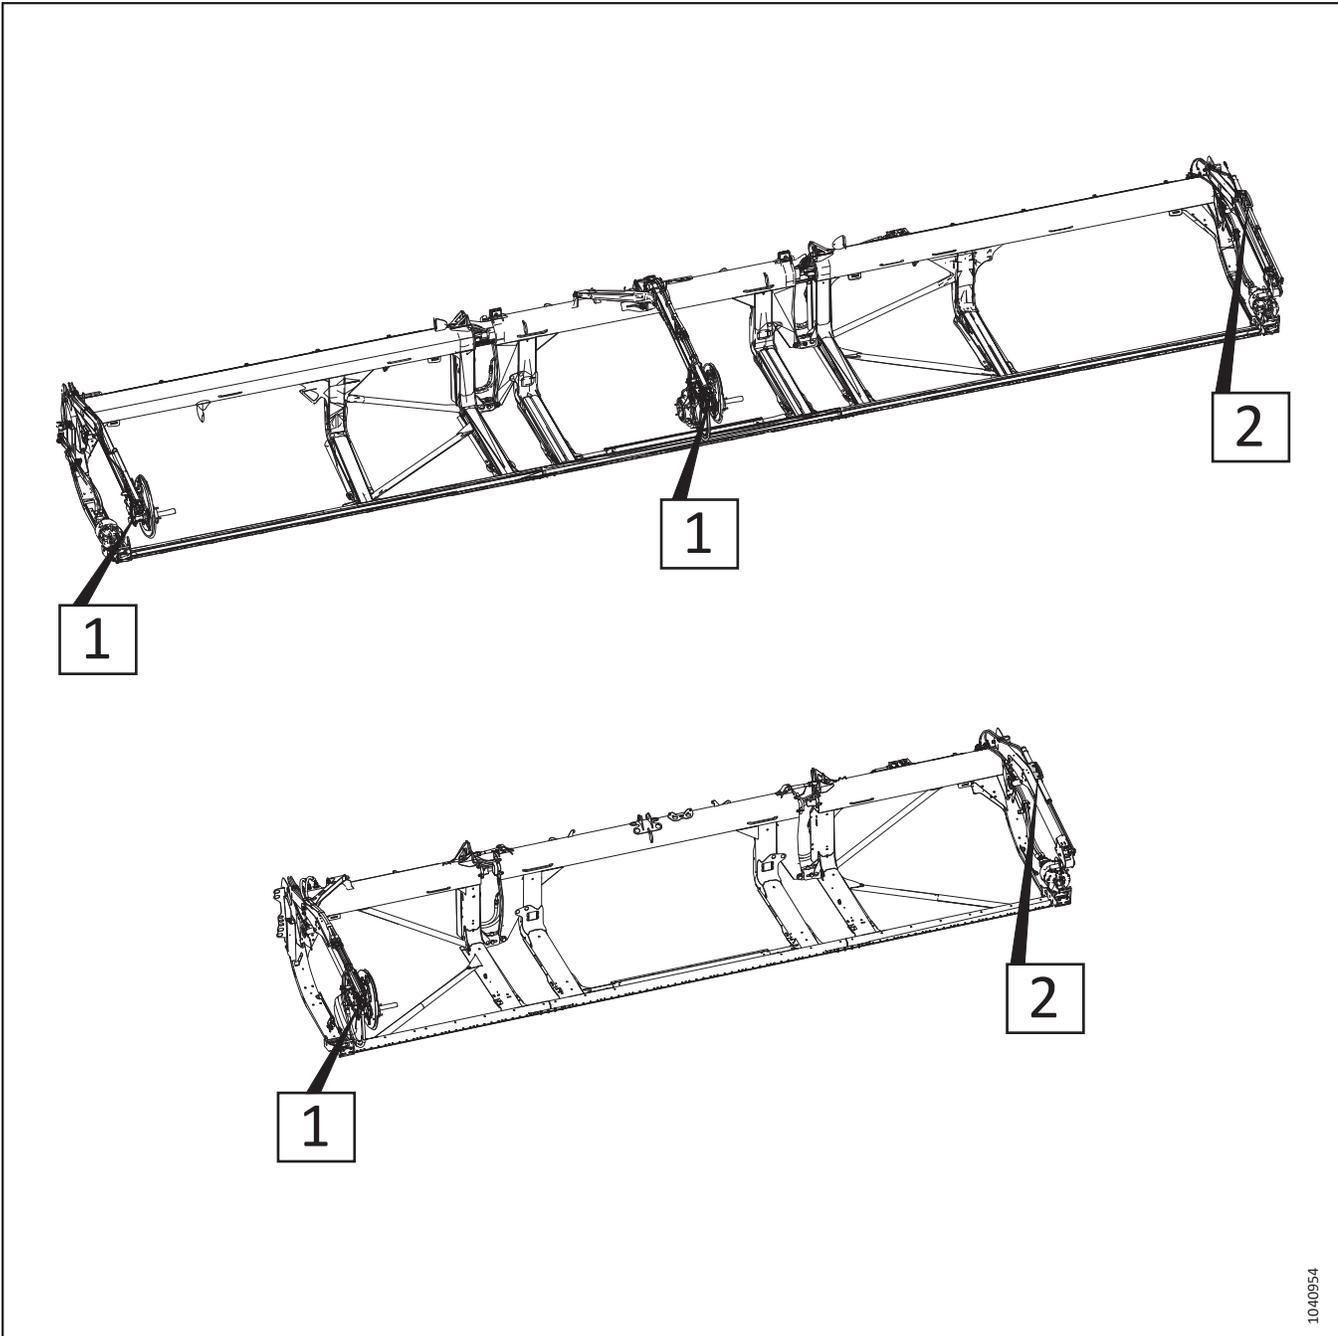

Figure 3.158: Adjustable Fore-Aft Cylinders – Procedure Reference Numbers
6. Refer to Figure 3.158, *page 148* to determine the fore-aft cylinder adjustment procedures for your header type. The number on the illustration refers to one of the following procedures: